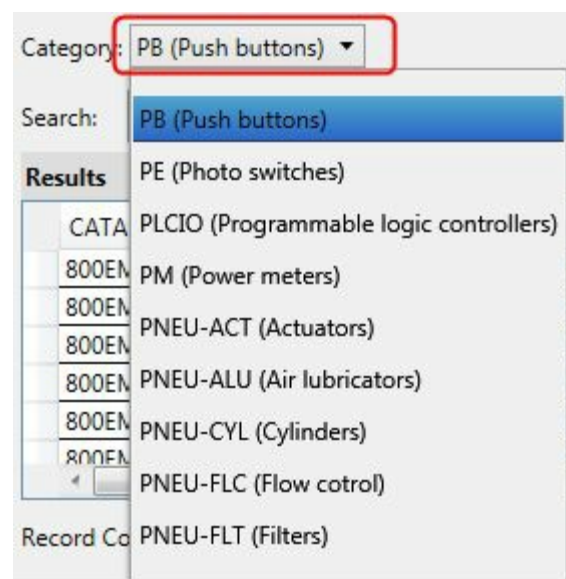

Figure-17. Category drop-down
- Click on the edit box for Category, a list of various component categories will be displayed; refer to Figure-17.